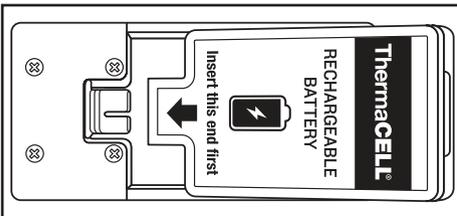
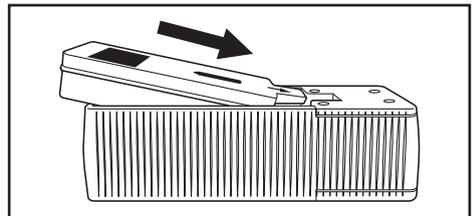

Figure 4
Figure 5
- c. Place the battery inside the Smart Charging Case with the foam side facing up, so the battery connector is facing the red Smart Charging Case connector (Figure 4). The battery will be at a slanted position at this point (Figure 5).